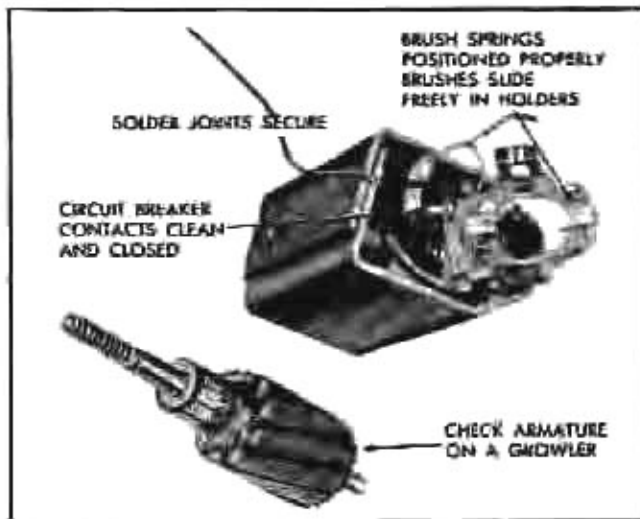

Fig. 11-101 Check Points
c. Disassemble gear box and inspect gear for cracked or broken gear teeth. Disassemble wiper motor and inspect or check items shown in Fig. 11-101 as required until trouble is located.
If current draw exceeds 4.5 amps check the various items outlined in Fig. 11-101.